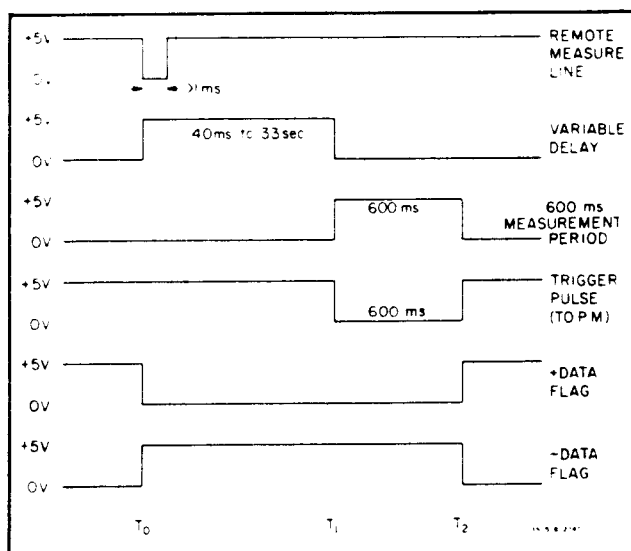

Figure 3-10. Flag Timing Delayed Mode.
**3-81. Delayed Mode.** When the Trigger Mode line is held in a "false" condition (open or + 2.4 V to + 5 V), the timing sequence is as shown in Figure 3-10. In Figure 3-10, the Remote Measure line is pulled low at T0 by the external controller. This initiates a variable delay period (determined by the Frequency Range setting) and sets the + and - Data Flags. At the end of the variable delay (T1), a 600 ms delay is initiated and, at the same time, a 600 ms trigger pulse is applied to the panel meters. At the end of the 600 ms delay (T2) both Data Flags are reset to indicate that data is ready.